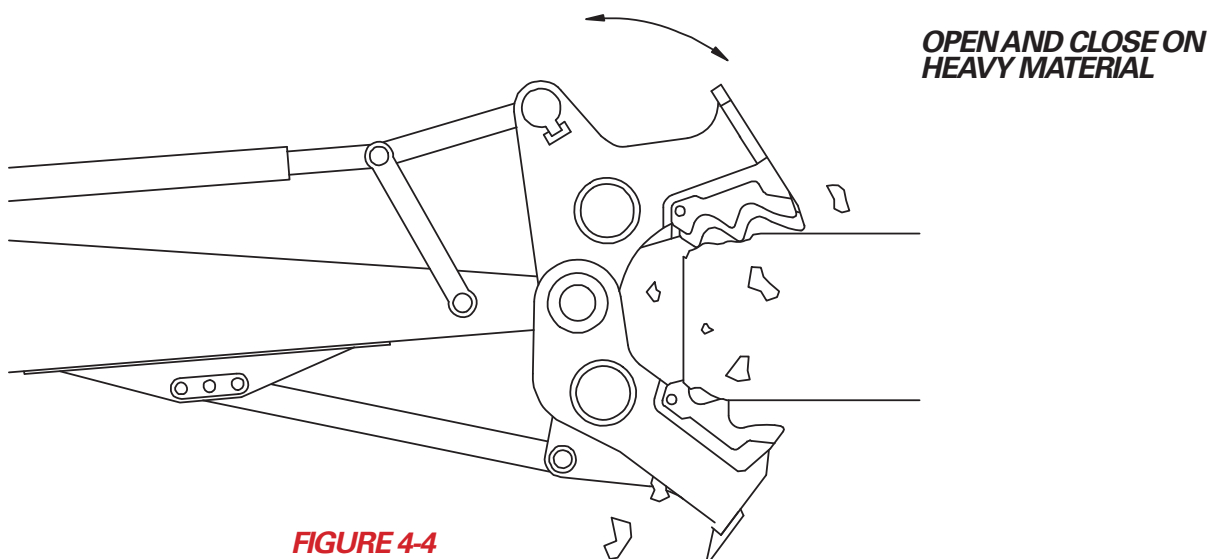

FIGURE 4-4
2. When processing large, heavy materials, open and close with short cycles rather than attempt to crush the material in one cycle (see figure 4-4). This allows the pulverizer to downsize the material until it is able to pulverize it completely. This technique creates less stress on the attachment and excavator hydraulics.